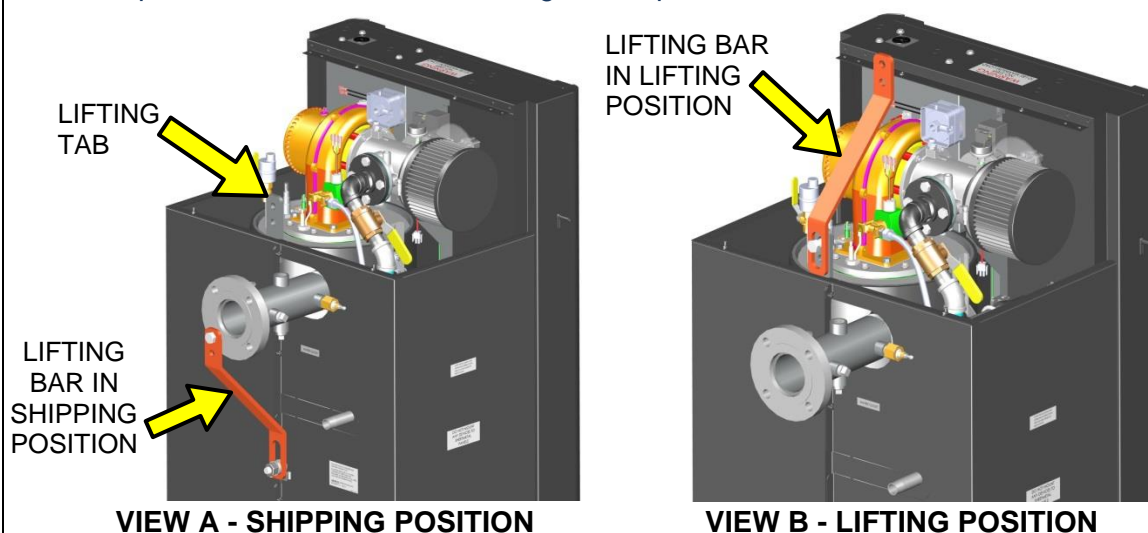

Figure 2-4a: BMK750/1000 Boiler Lifting Provisions
Unpack and inspect the unit, then remove the four (4) lag screws securing the boiler to the shipping pallet. The boiler can be lifted and moved by inserting forklift tines in the front slots provided in the base of the unit, or it can be lifted by attaching a lifting bar to the unit's heat exchanger. A lifting bar (P/N **59174**), with attaching hardware, is supplied with each unit. When shipped, this bar is attached to the rear of the unit as shown in Figure 2-4a (View A). One (1) lifting tab is provided at the top of the unit's heat exchanger as shown. This tab is used to attach the lifting bar to the unit, as described below.
1. Remove the lifting bar from its shipping location at the rear of the unit (Figure 2-4a, View A). Retain the two (2) hex head cap screws, hex nuts and flat washers.
3. Attach the lifting bar to the heat exchanger lifting tab using the hardware removed in step 1 (Figure 2-4a, View B). The upper end of the lifting bar containing the oval cutout should be positioned over the top of the heat exchanger as shown.